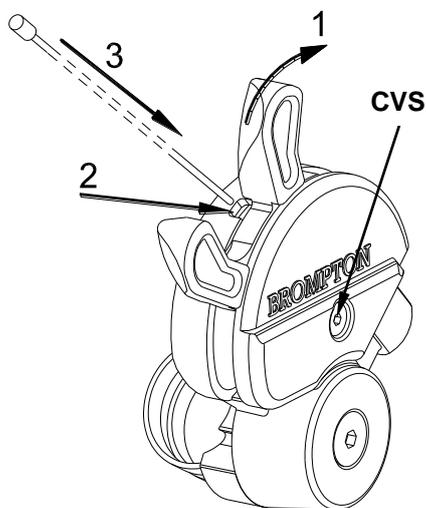

fig GTR7
To remove the inner wire from the Brompton trigger, set the trigger lever in the middle gear position and lightly push the lever in direction **1** (**fig. GTR7**) to open up the cable loading window **2**.
To fit the inner wire to the new trigger, set the trigger lever in the middle gear position and lightly push the lever in direction **1** (**fig.GTR7**) to open up the cable loading window **2**.
**TIP.** Rotating the inner wire slightly while feeding the inner wire through the control can assist the loading. If you experience trouble feeding the wire through the trigger nipple hole, set the control as shown in **fig GTR7** and look for the hole in the trigger nipple TN through the window and then visually guide the inner wire into the trigger nipple